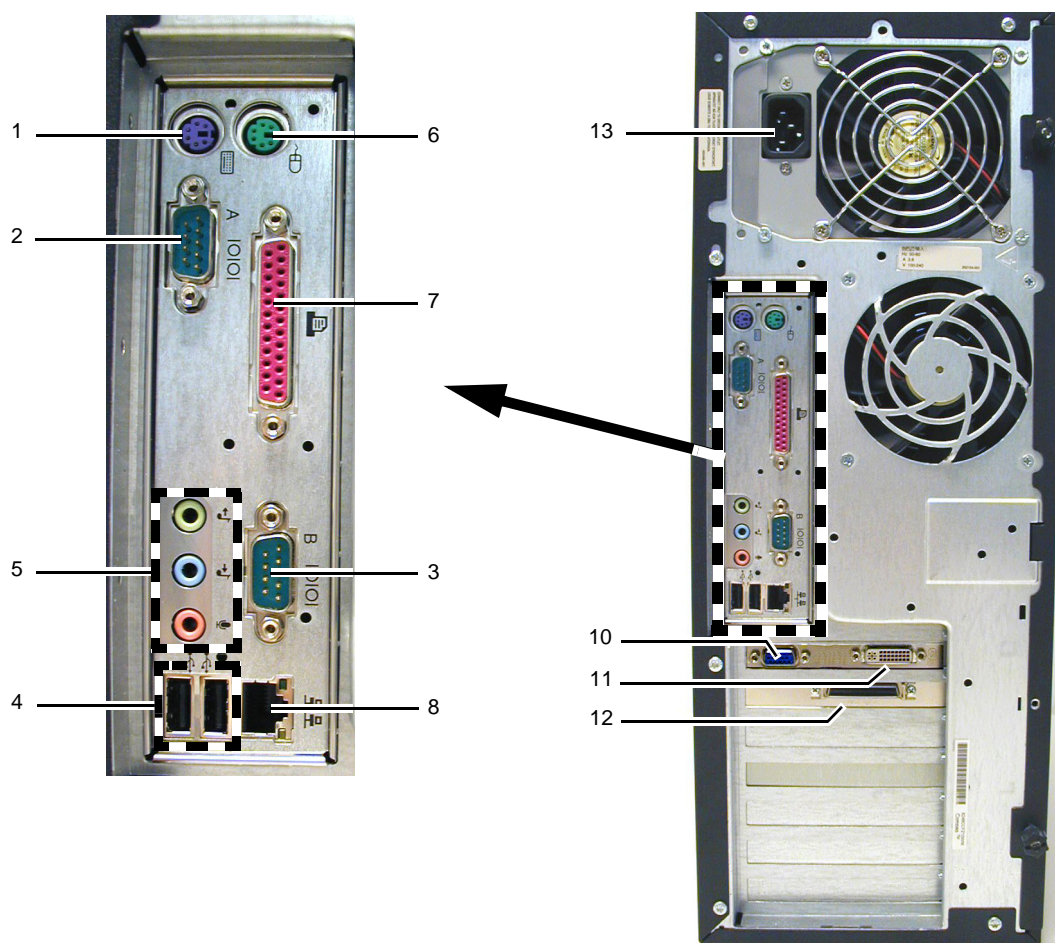

Figure 3-15 Connectors at Rear of COMPAQ Evo 4000
- Figure 3-15 "Connectors at Rear of COMPAQ Evo 4000" on page 3-26